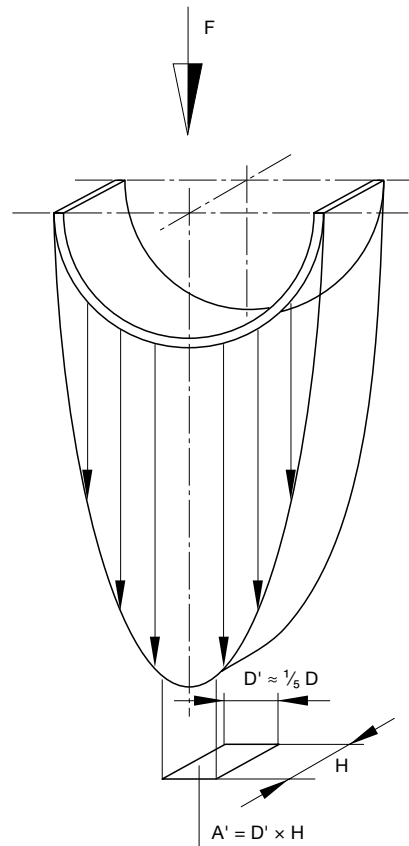

Fig. 6.1 Pressure distribution on bearing area
These lateral forces (F) lead to a pressure distribution as shown in fig. 6.1. In practice, calculation based on the projected surface has proved to be a simple and more useful method. This means that the load carrying area (A) can be calculated from the length (H) multiplied by the diameter (D) (see fig. 6.2). The surface obtained is about 5 times larger than the assumed bearing area of fig. 6.1, so that lower specific loads must be reckoned with. In order to obtain the same values for lateral forces " F ", the specific load must be only $\frac{1}{5}$ of the max. force shown in fig. 6.1. The indicated permissible specific forces ($F_{perm.}$) take this into account, and the admissible specific pressure mentioned relates to the projected area as shown in fig. 6.2.